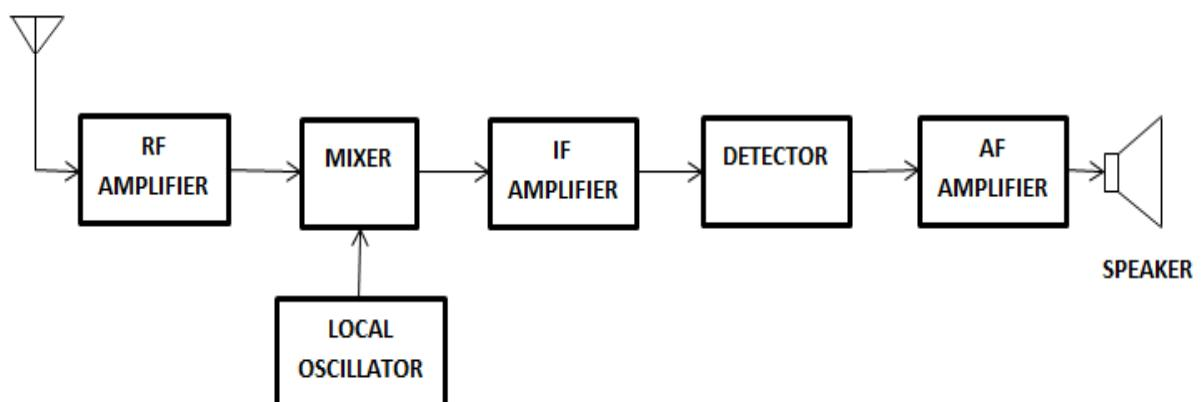

Figure 7.1.7: Block diagram of AM Super-heterodyne Receiver
There are a great variety of receivers in communication systems based on the requirements such as the modulation scheme, the operating frequency and its range. One of them is *super-heterodyne* type, which uses frequency mixing or heterodyning to convert a received signal to get a fixed intermediate frequency (IF). This allows the processing of signal easier as the circuits after IF needs to be designed for narrow band of frequency. The functional block diagram is shown in Figure 7.1.7.